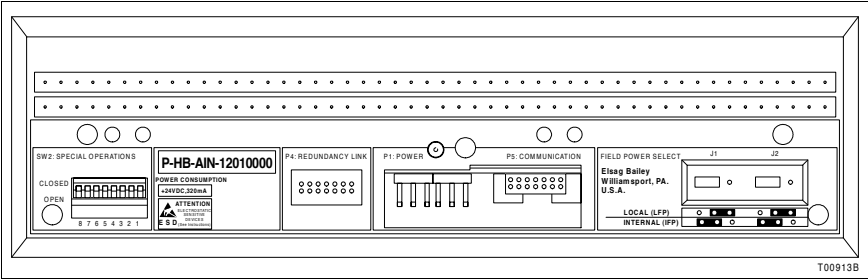

Figure 7-2. I/O Module Rear Panel
Figure 7-2 shows the typical rear panel of an I/O module. The switches, jumpers, and connectors are recessed to allow resting the assembly face up on a table.
NOTE: 0 = off or open; 1 = on or closed. The on position is the switch up position when looking at the I/O module as shown in Figure 7-2.
- 3. Set switch SW2 to initialize (refer to Fig. 7-2 for its location).